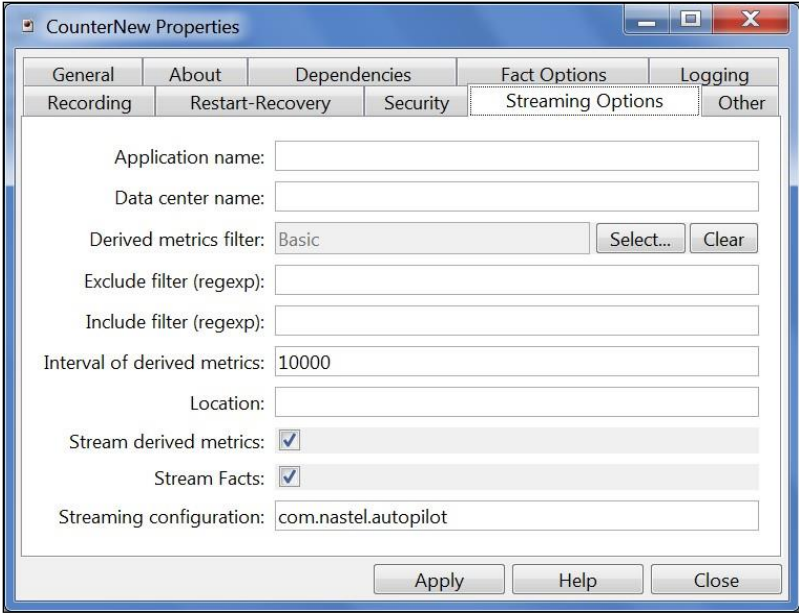
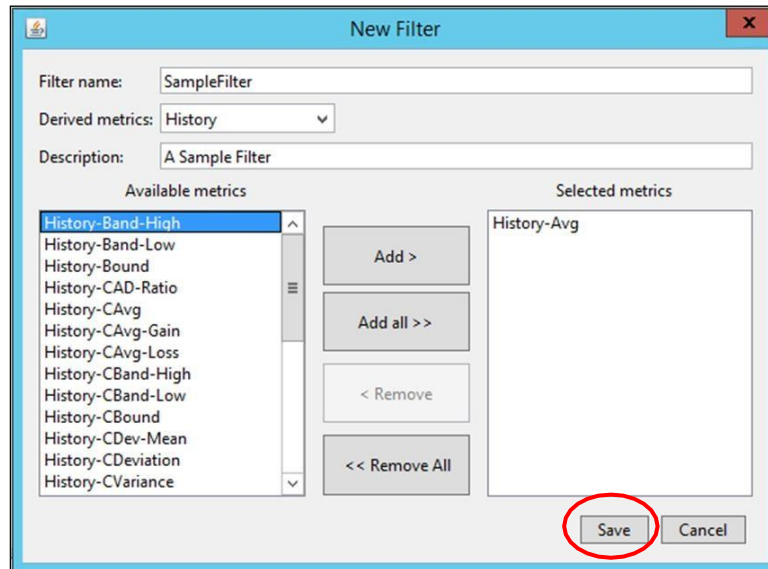

Figure 4-136. Streaming Options
Figure 4-138. New Filter
- After clicking the **Select** button from the **Streaming Options** tab (Figure 4-136), the *Filters* dialog box is displayed. Click the plus sign icon to display the *New Filter* dialog box (Figure 4-138).